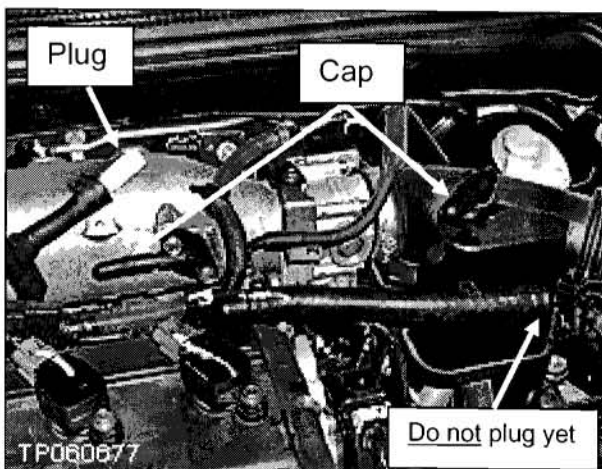

Figure C3
11. Cap the ports, plug and clamp the hose as shown in Figure C3.